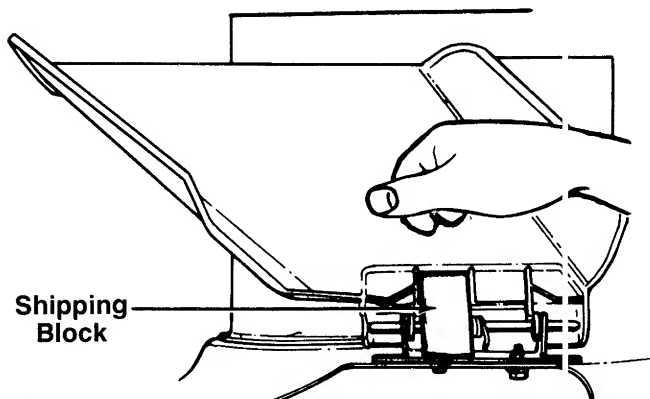

FIGURE 9.
1. The chute deflector on your mower is held in an upright position by a block for shipping purposes only. This shipping block must be removed and discarded before the mower is put into operation. See figure 9.